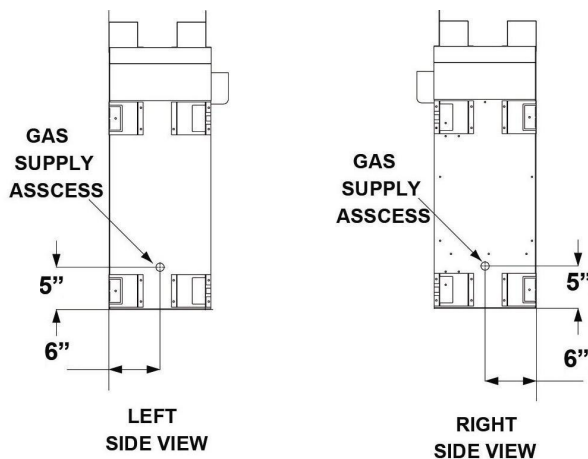
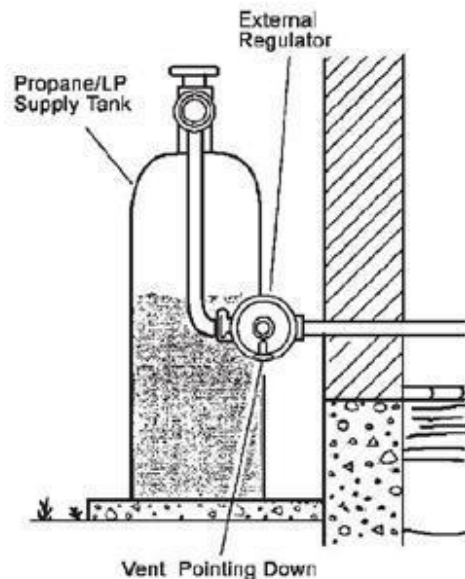

Figure 12- Gas Line Access Into Fireplace Cabinet
Figure 13 - External Regulator With Vent Pointing Down
The installer must supply an external regulator. The external regulator will reduce incoming gas pressure. You must reduce incoming gas pressure to between 11 and 14 inches of water column for propane and between 5 and 10.5 inches of water column for natural gas. If you do not reduce incoming gas pressure, heater regulator damage could occur. Install external regulator with the vent pointing down as shown in Figure 12. Pointing the vent down protects it from freezing rain or sleet (see Figure 13).
**CAUTION:** Use pipe joint sealant that is resistant to gas (PROPANE or NATURAL GAS). We recommend that you install a sediment trap in a supply line as shown in Figure 13. Place sediment trap where it is within reach for cleaning. Install in the piping system between fuel supply and heater. Place sediment trap where trapped matter is not likely to freeze. A sediment trap traps moisture and contaminants. This keeps them from going into heater controls. If sediment trap is not installed or is installed incorrectly, heater may not run properly.